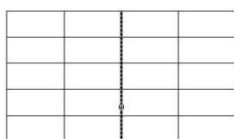

Fig 16
2. Specify the line of table for dragging. (Fig16)